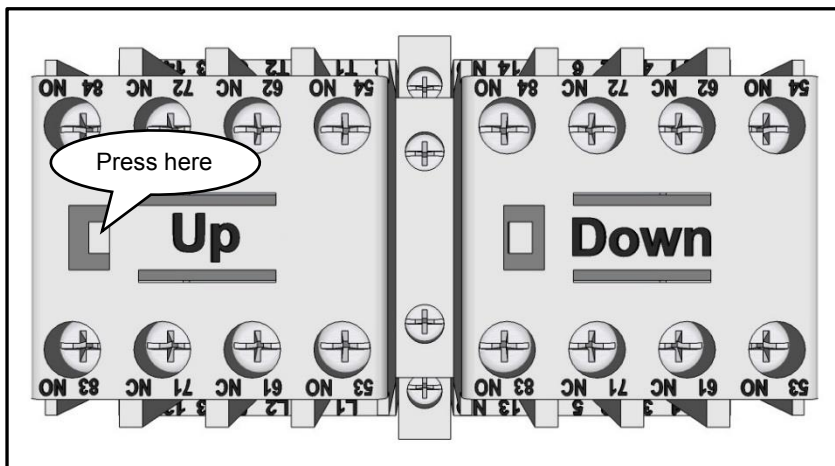

Figure 8
- 2 To check the motor rotation, open the control box and locate the Down "D" and Up "U" contactor. (see Figure 8)